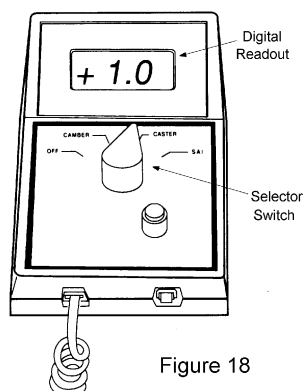

Figure 18
- 6) Read Caster on the Digital Readout Scale (A positive 1.0 is indicated in Fig.18). The numeric reading will be preceded by a + or - to indicate positive or negative Caster.